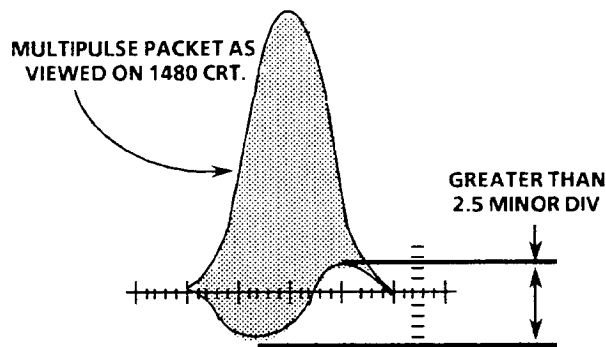

Figure 7-17: FDelay error more than 1%
- v. Check each pulse to see that there is less than 1% (2.5 minor divisions) peak-to-peak sinusoidal term (delay error). Figure 17-16 illustrates delay error within 1%. Figure 7-17 illustrates delay error greater than 1%.